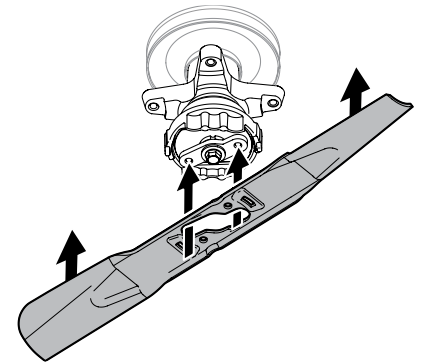

Figure 4-9
3. Position the blade under the spindle assembly, and carefully align the large opening in the center of the blade over the rider blade retainer. See Figure 4-9.